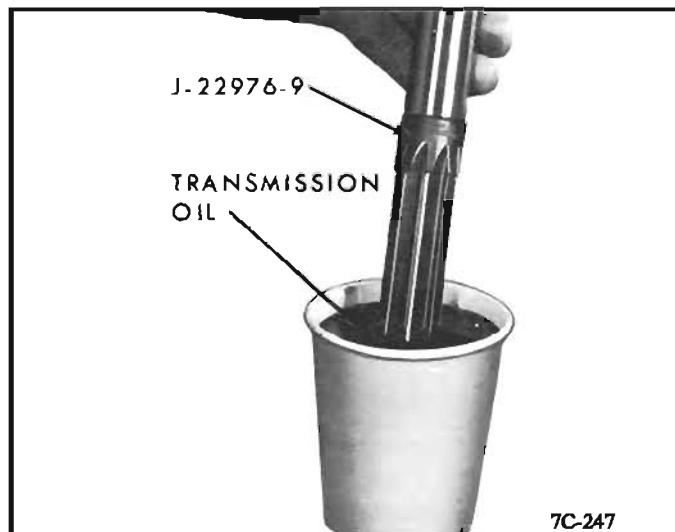

Figure 119
c. *After each 10 revolutions* remove the reamer and dip it into a cup full of transmission oil. This will clean the chips from the reamer and lubricate it. See Figure 119.